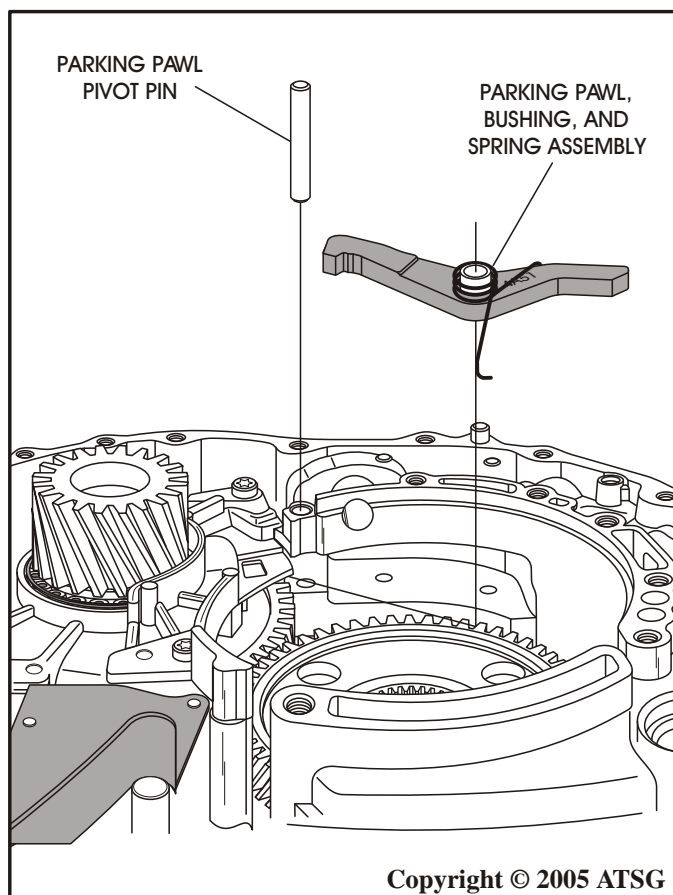

Figure 164
21. Rotate transaxle case so front side is facing up, as shown in Figure 164.
24. Install parking pawl, return spring and bushing assembly into the case, as shown in Figure 164, and install the pivot pin.